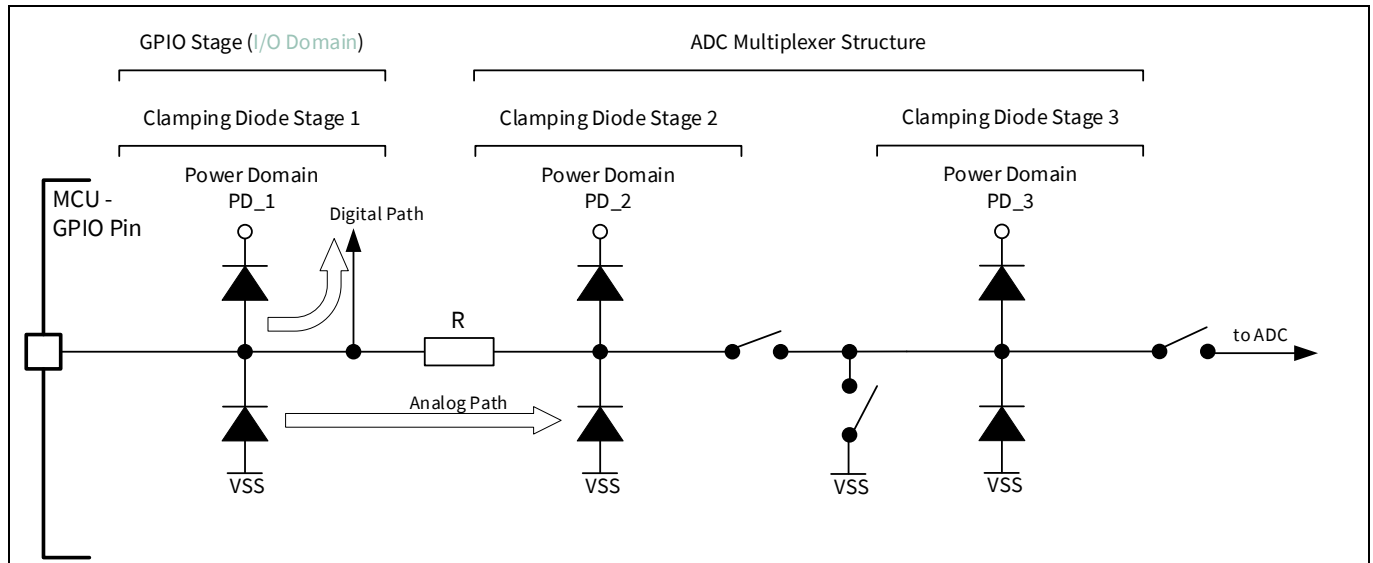

Figure 18 Clamping structure of I/O pins with shared analog functions
It is important to identify the power supply domains that must have a common supply level in each application. Figure 18 and Appendix G – Clamping structure of I/O pins with shared analog functions provide the overview of the clamping structure and the consequences when the analog input function is used on dedicated power domains. When any port pin of a dedicated power domain (PD) is applied as an analog input, the domain must have the same voltage level or lower than the analog supply (VDDA_ADC). Appendix G – Clamping structure of I/O pins with shared analog functions lists the special use cases.